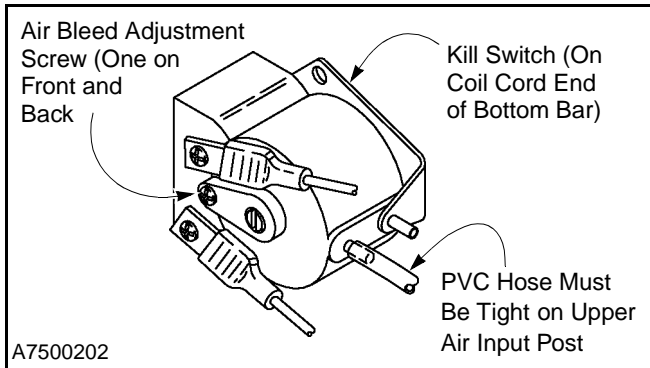

Figure 37
3. Make sure the PVC hose is tight on the upper air input post to prevent air leakage and to ensure the hose will not vibrate off the post. Also make sure the hose is not kinked. (See Figure 37.)